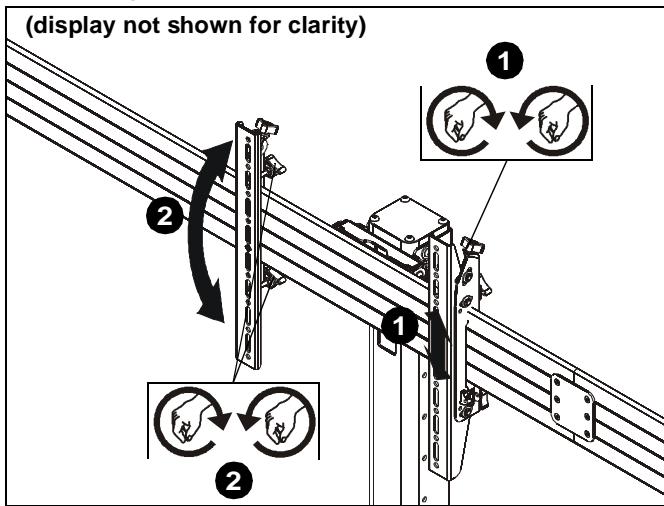

Figure 20
1. Use upper knob on back of interface brackets (AA and BB) to adjust the height of each display. (See Figure 20)
2. Use middle and lower knobs on back of interface brackets (AA and BB) to make plumb adjustments to each display (See Figure 20)